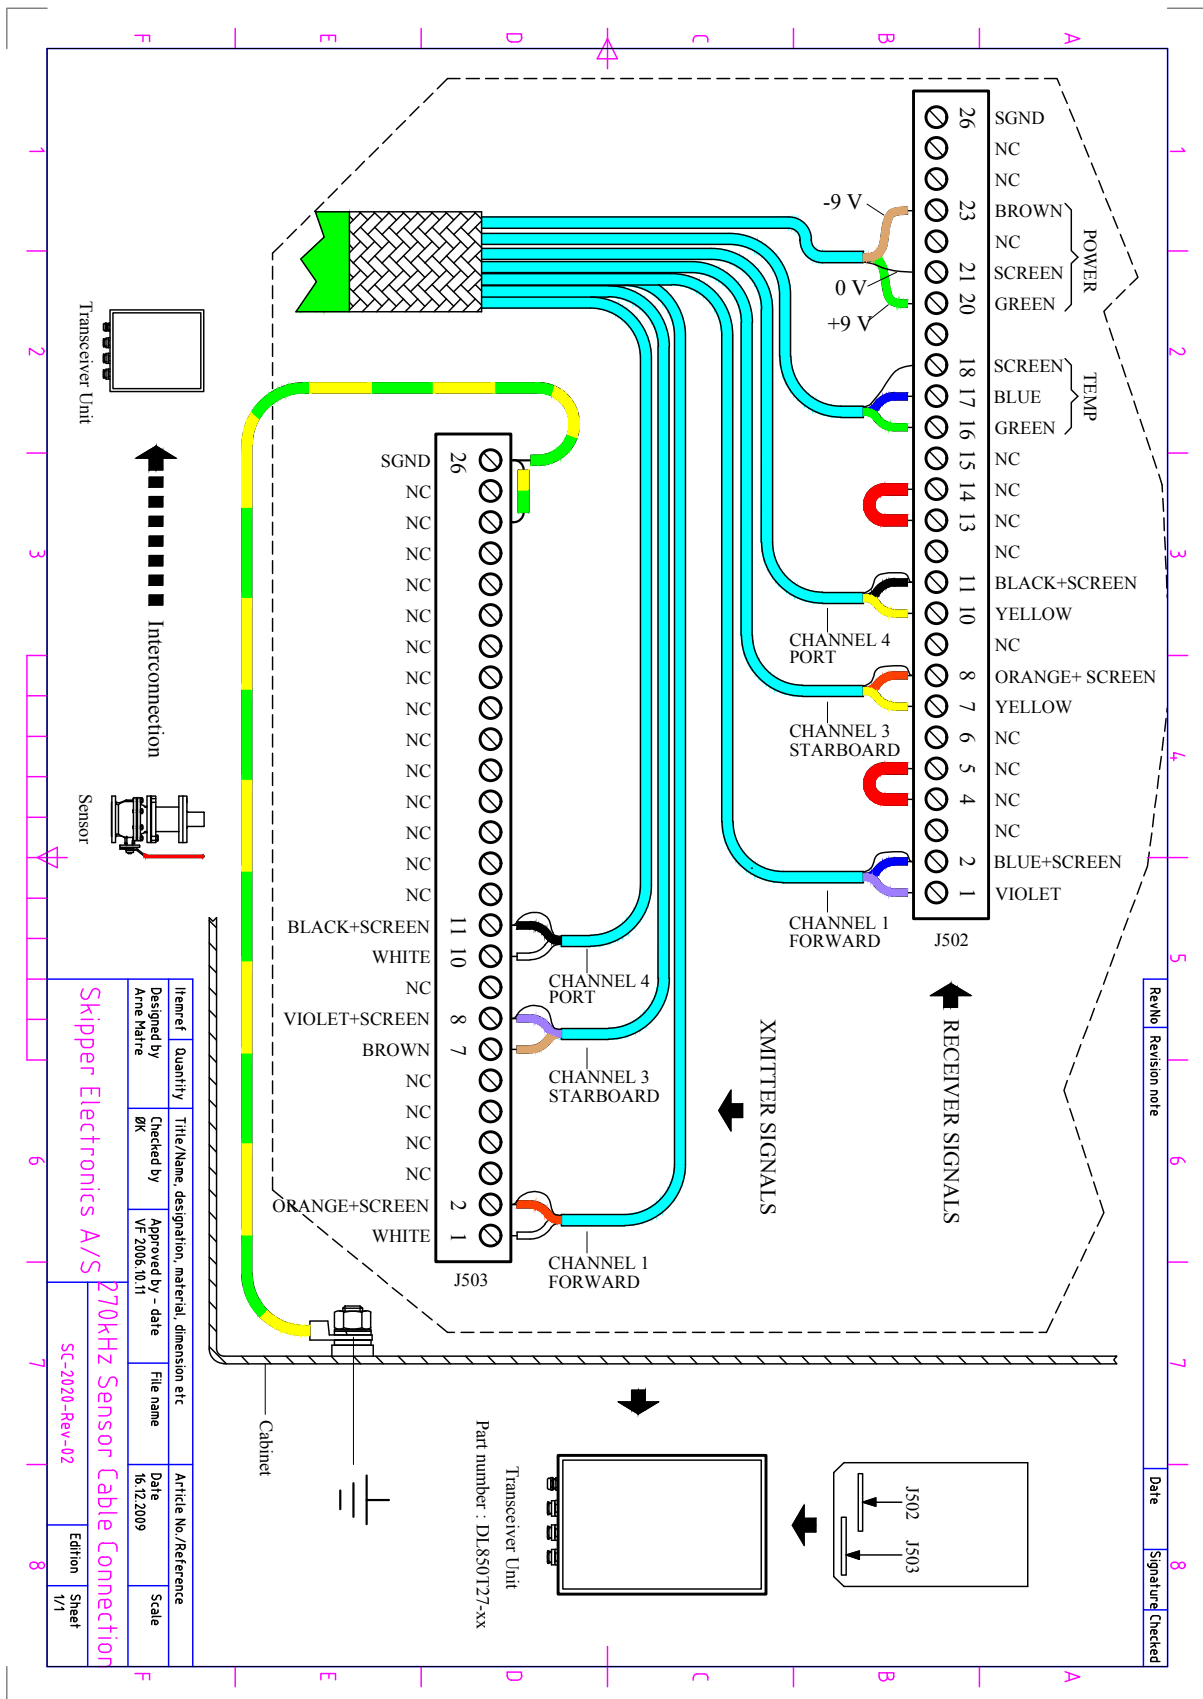

Fig. 10.5. 270 kHz Sensor Cable Connection
- Fig. 10.5. Interconnection diagram between sensor and the transceiver unit.